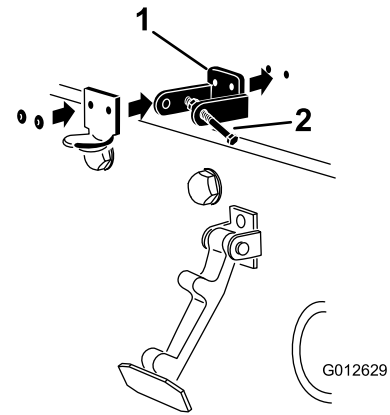

Figure 6
6. Rivet the brackets and the washers to the hood (Figure 6).